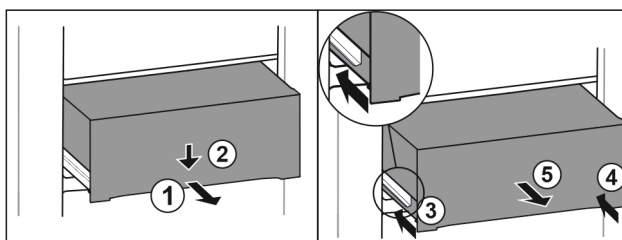

Fig. 91
- Pull out drawer half-way. Fig. 91 (1)
- Push the drawer down at the front. Fig. 91 (2)
- Push the left rail in by about 2 cm. Fig. 91 (3)
- Push the right rail in by about 2 cm. Fig. 91 (4)
- Remove drawer to the front. Fig. 91 (5)